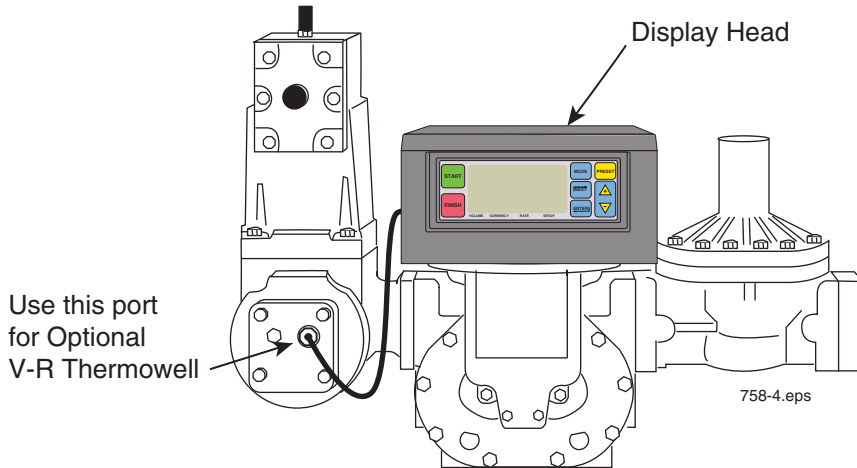

Figure 29. Example Thermowell Installation
1. Locate the thermowell in the metering system (see Figure 29).